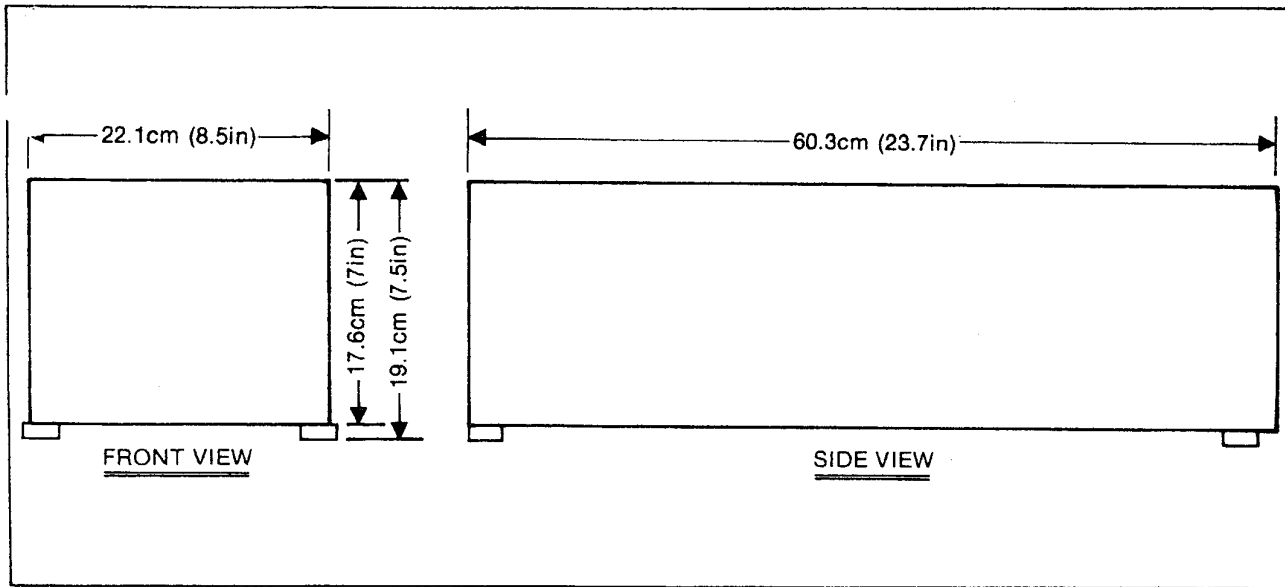

Figure 1-1. Outside Dimensions
7.5 in. x 8.5 in. x 23.7 in. (see Figure 1-1)